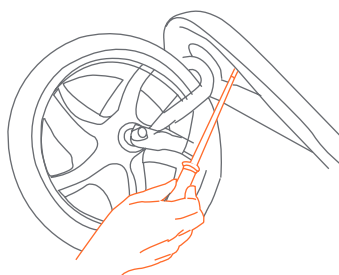

Fig. 5d
- Insert the 4 screws through the underside of the front frame assembly into the front fender's plastic tubes. Tighten the screws only until snug (Fig. 5d).